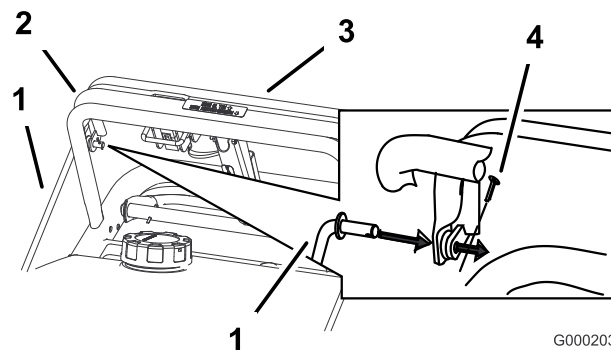

Figure 8
- Install the control rods into the upper control bar and the blade control bail. Secure the control rods with 2 cotter pins (Figure 8).